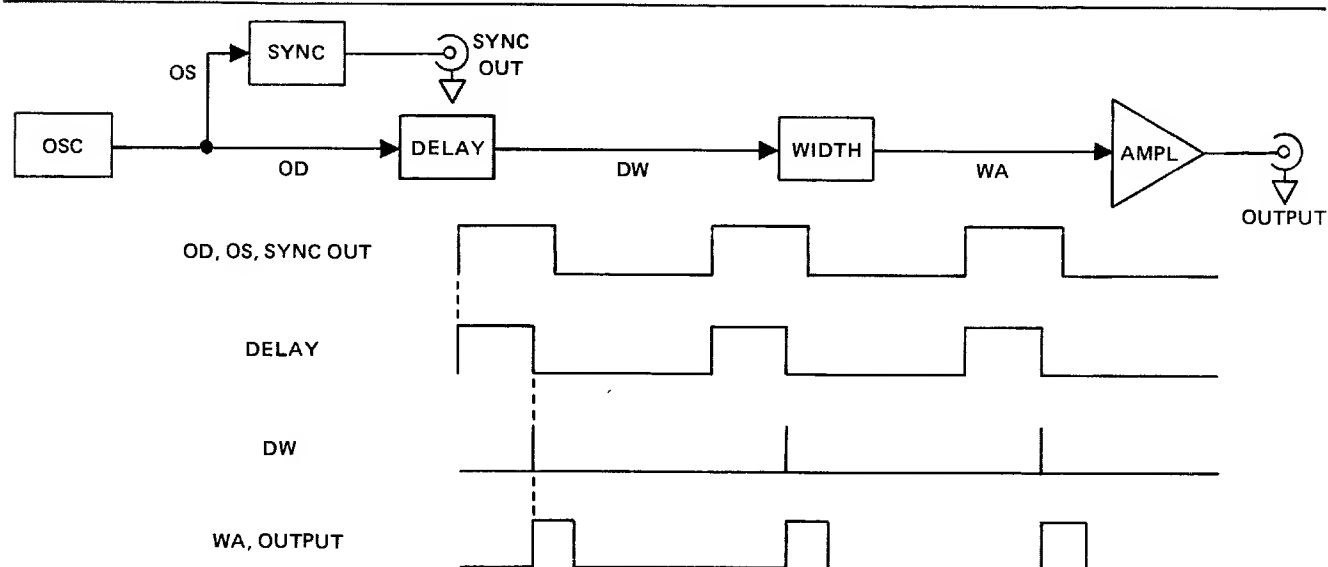

Figure 4-3. Continuous Mode
The major circuit block connections depend on the mode of operation selected. Block diagrams of the major modes and key waveforms are shown in figures 4-3 through 4-8.
5. Try to isolate the problem to a specific circuit by checking generator operation in all modes and referring to the block diagrams for each mode (see figures 4-3 thru 4-8). After the problem has been isolated to a specific stage, check the dc operating voltages at the pins of all solid state devices within that stage.